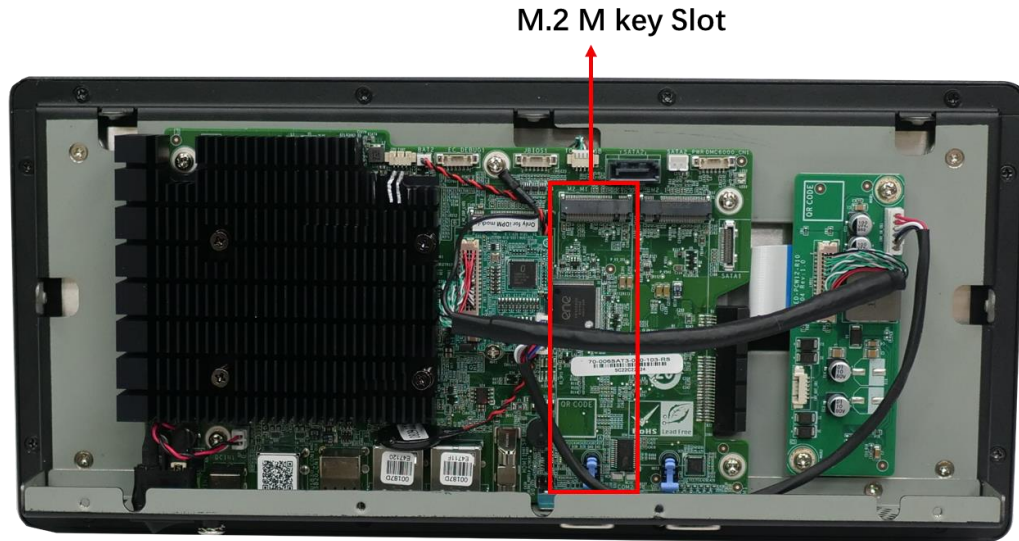

Figure 3-3: M.2 Slot Location
Step 2: Locate the M.2 slot as shown in **Figure 3-3**.